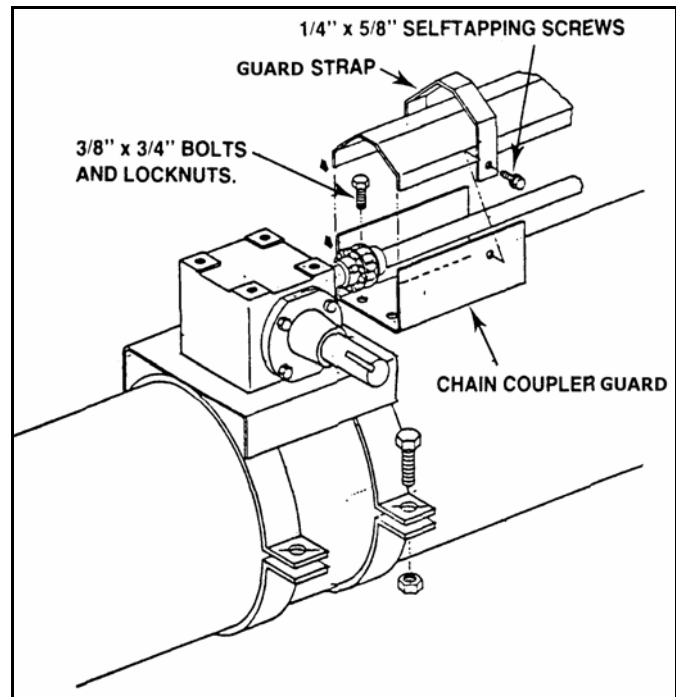

Figure 3.10
- a. Attach the chain coupler guard to gearbox base with two 3/8" x 3/4" bolts and locknuts (Figure 3.10).